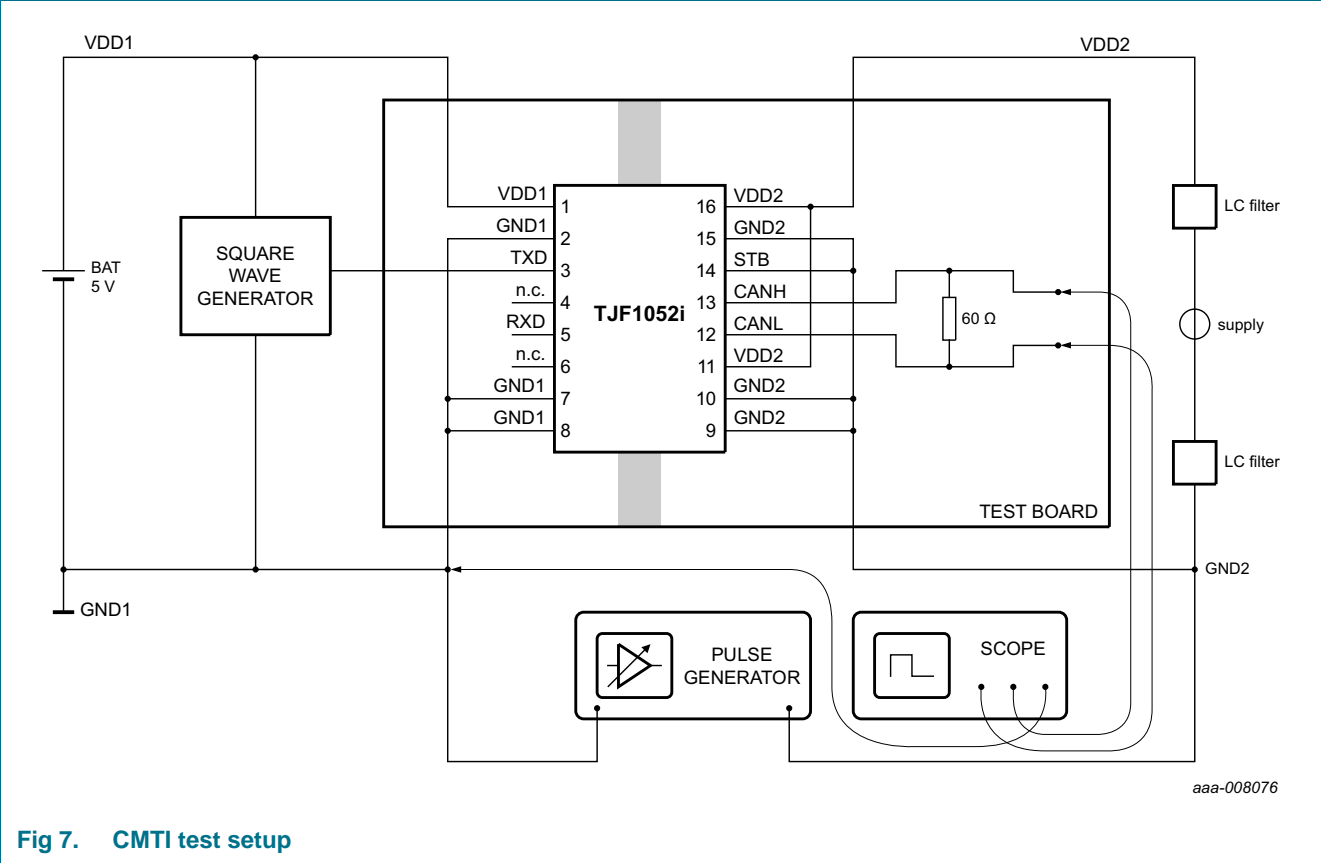

Fig 7. CMTI test setup
- [4]  $V_I$  is the input voltage on TXD. See Figure 7 for test setup.